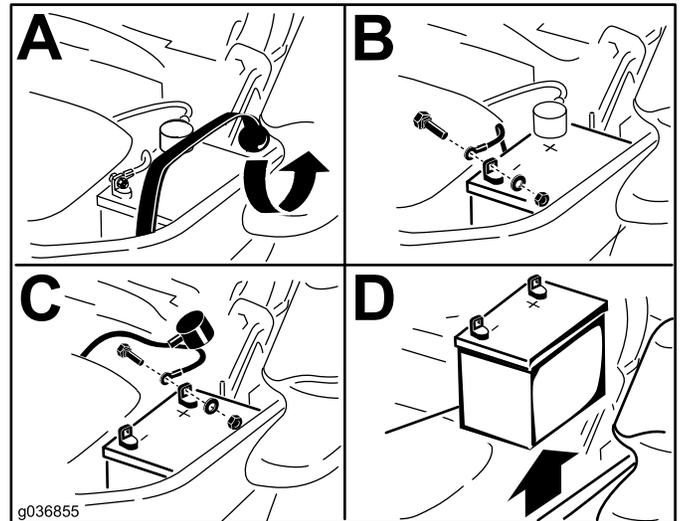

Figure 53
3. Remove the battery as shown in Figure 53.
1. Position the battery in the tray with the terminal posts opposite from the hydraulic tank (Figure 53).
4. Secure the cables with 2 bolts, 2 washers, and 2 locknuts (Figure 53).
6. Secure the battery with the rubber strap (Figure 53).